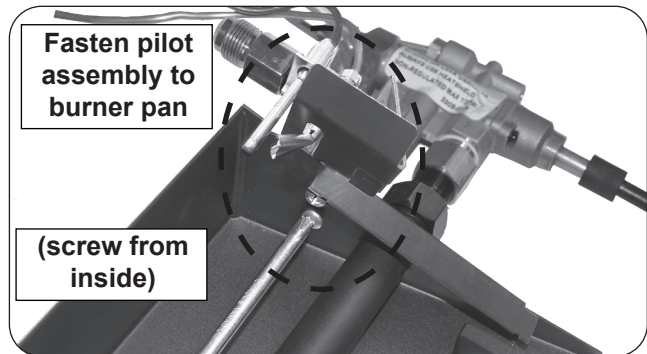
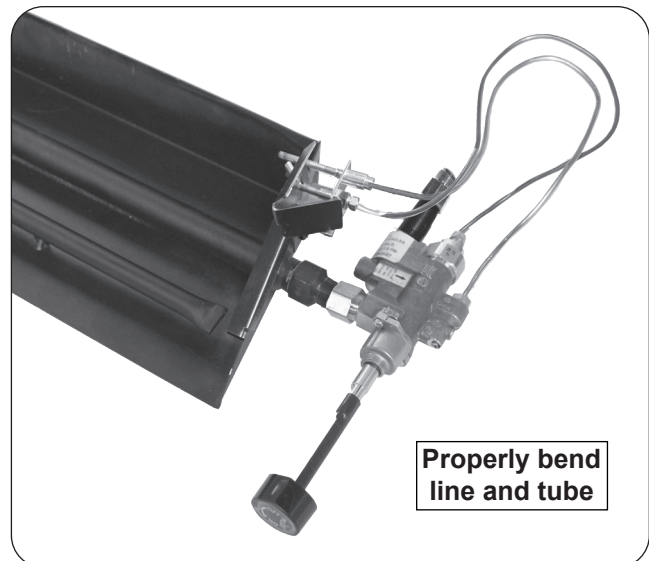

Fig. 6-2 Install pilot assembly
Fig. 6-3 Proper line and tube orientation
1. The pilot assembly comes with two Phillips screws installed on the long side of the pilot bracket. Remove the screws and use them to fasten the pilot assembly to the burner pan using the pre-drilled holes in the pan (see Fig. 6-2 and Fig. 6-3).
2. Ensure the pilot supply line and thermocouple tube are bent in a similar manner as shown in Fig. 6-3 to prevent damage / unsafe operation, and to allow for proper heat shield placement. Maintain this orientation at all times.